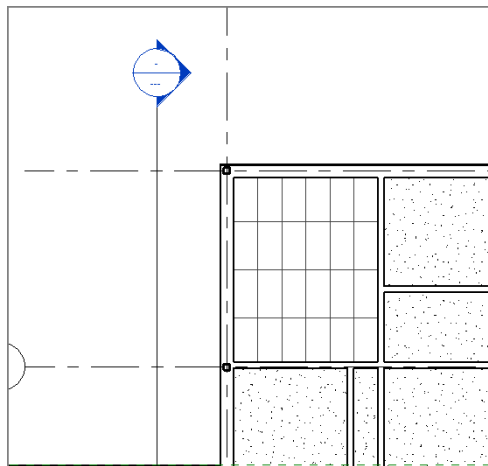

FIGURE 9.5: Placing the 2×4 tiled ceiling
5. When you see the red outline, pick a point in the middle of the room. Your ceiling should now look like Figure 9.5.